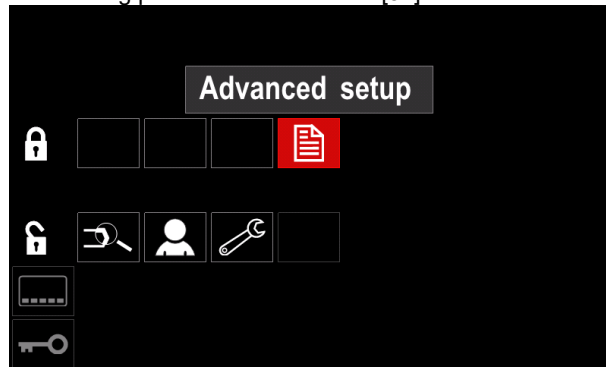

Figure 55
- Press right knob [44]. The icon of chosen parameter will disappeared from the lower part of the display (Figure 55). This parameter disappeared from the Welding parameters bar as well [52].